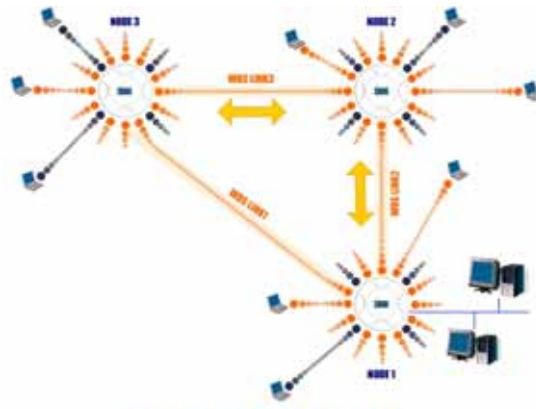

Figure 34. WDS Failover Protection
- Multiple WDS links can provide link redundancy (failover capability - see Figure 34). A network protocol (Spanning Tree Protocol—STP) prevents Arrays from forming network loops.